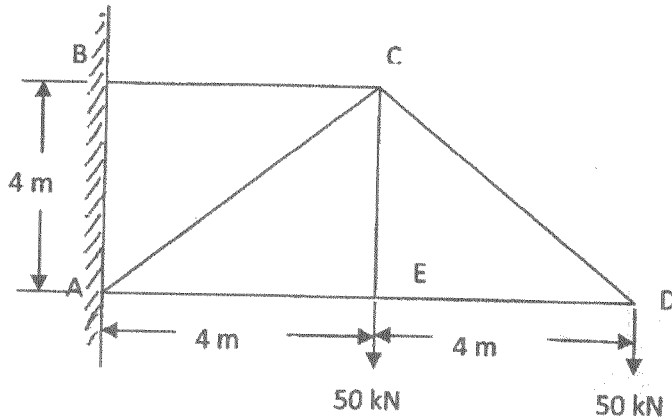

Fig. 5
14. For the pin-jointed plane truss shown in fig. 5, find the vertical displacement of the joint D. Assume $AE = 2 \times 10^6 \text{ N}$.